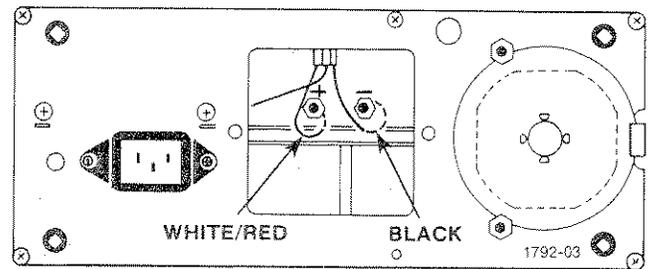

Fig. 2-2. Battery Connector Polarity.
*When substituting a dc power supply or external battery for the battery pack, be sure the polarity is correct. See Fig. 2-2.*